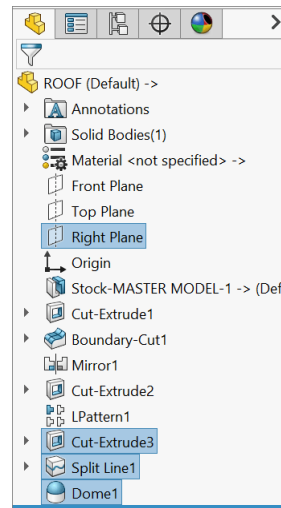

Fig. 57
Step 1. Click Zoom to Fit  (F) and Down Arrow key .
Step 2. Ctrl click Right Plane, Cut-Extrude3, Split Line1 and Dome1 features, Fig. 57.